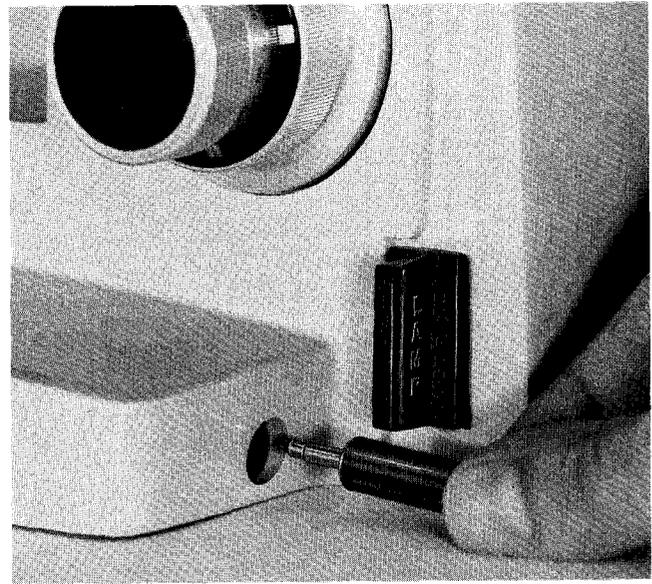

Figure 25. Dual Viewing Receptacle
7. Dual Viewing Receptacle. On Series One-Ten Microscopes equipped with the 1130A Illuminator a dual viewing receptacle is provided. This is located on the right rear of the base, Figure 25. The plug from the Dual and Multi-Viewing Adapters should be inserted here to provide illumination of the arrow.